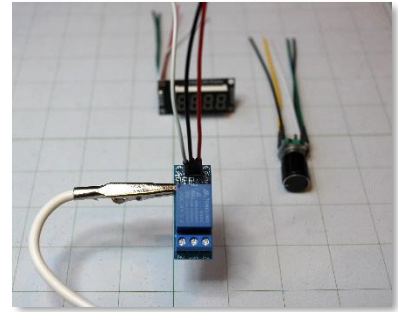

Figure 4
The next part we'll pre-wire is the Relay Module. Once again, cut (3) more 4-inch 22 AWG wires, 1 black, 1 red and 1 white. Here, make sure you solder the wires, so they are coming out of the top component side of the relay as illustrated in figure 4. This is important as the relay will be seated inside the flat portion of the case when we later install it. Make sure to also use protective shrink tubing if required.